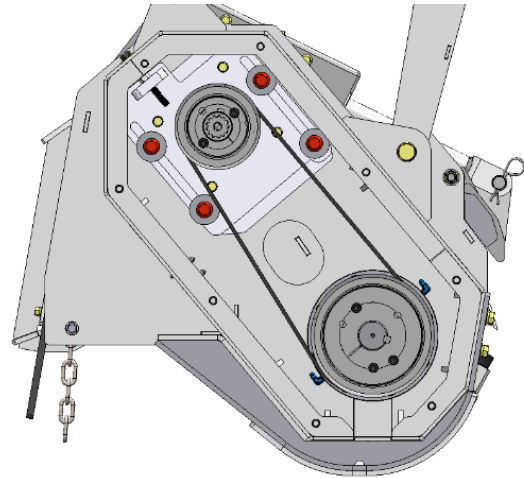

Figure 14
2. Loosen four (4) bolts on the hydraulic motor sliding plate. See Figure 14.